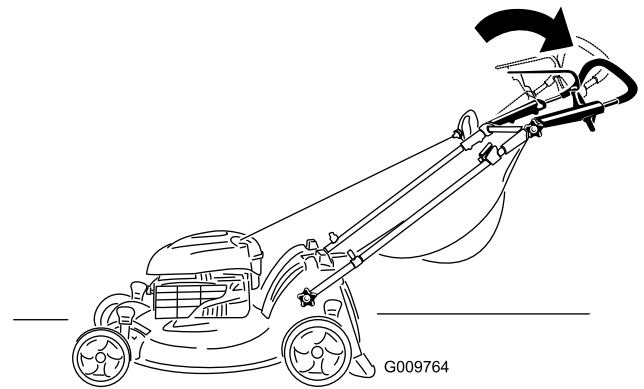

Figure 18
2. Move the upper handle to the desired position (Figure 18).